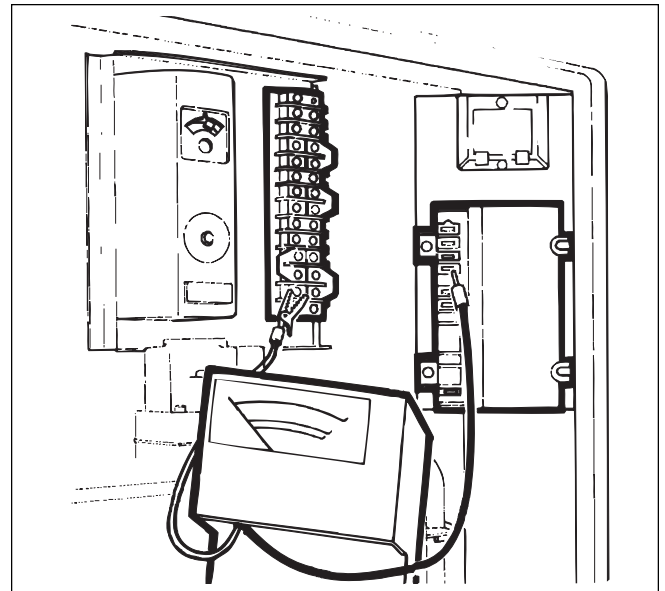

Figure 42. Flame sensing current.
2. If everything appears all right, measure flame sensing current by connecting a direct current (DC) microamp meter between terminal No. 12 and the GND (BURNER) terminal on the ignition control (see Figure 42).